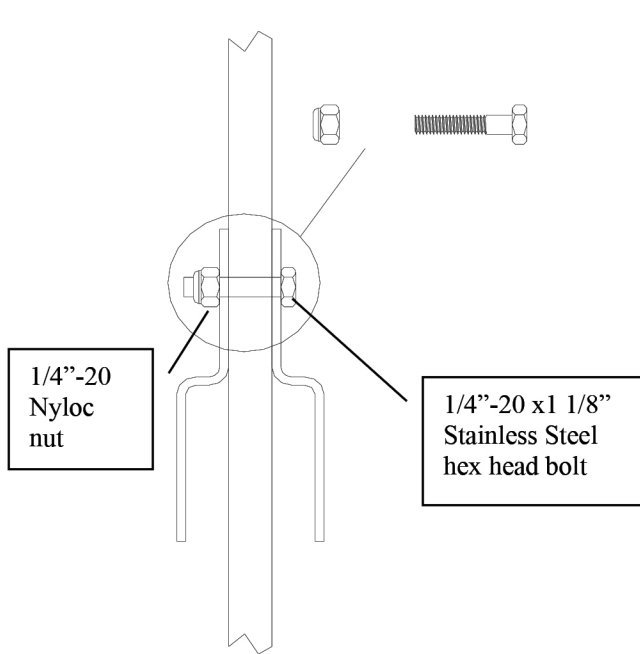
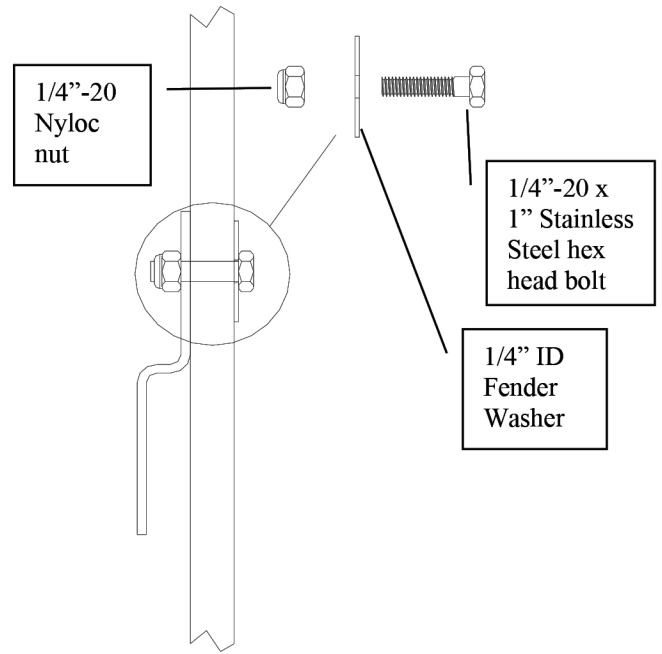

Figure 3.
Figure 4.
3. Using a $\frac{1}{4}"$ drill bit, drill (2) $\frac{1}{4}"$ diameter holes through the Division Panel on the marks made in Step 2.
5. Attach the brackets to the division panels using 1/4"-20 x 1 1/8" bolts, 1/4"-20 Nyloc nuts, and (for end runs) 1/4" ID Fender washers, (supplied) through the mounting holes in the support brackets. When attaching a bracket to both sides of a Division panel, see Figure 3. For end Division panels where only one bracket is being applied, see Figure 4.